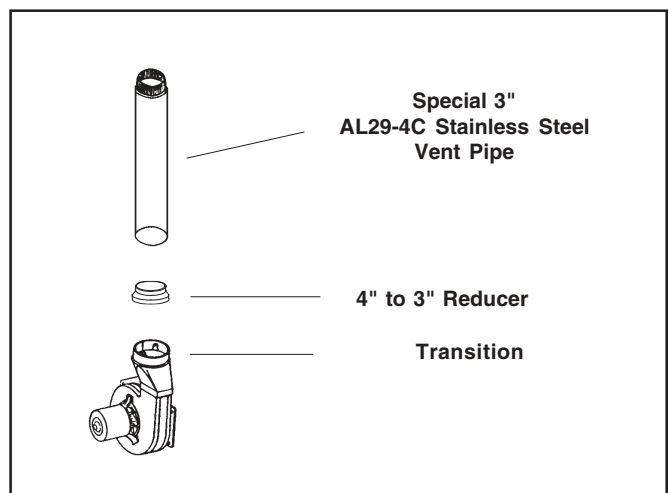

Figure 18. *RK Reducer Installation
- Install and seal a 4" to 3" reducer to the transition. (See Figure 18.) Attach the new high temperature vent pipe to the reducer.